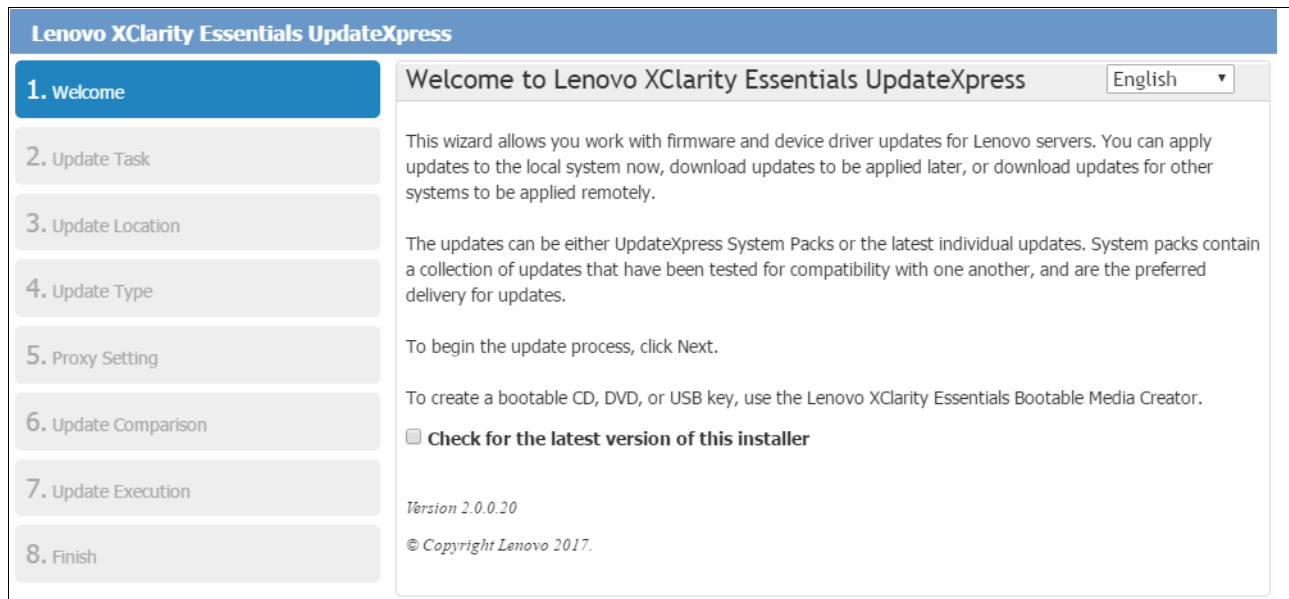

Figure 5-47 Welcome window
3. The Welcome window opens, as shown in Figure 5-47 on page 160. Click **Next**.